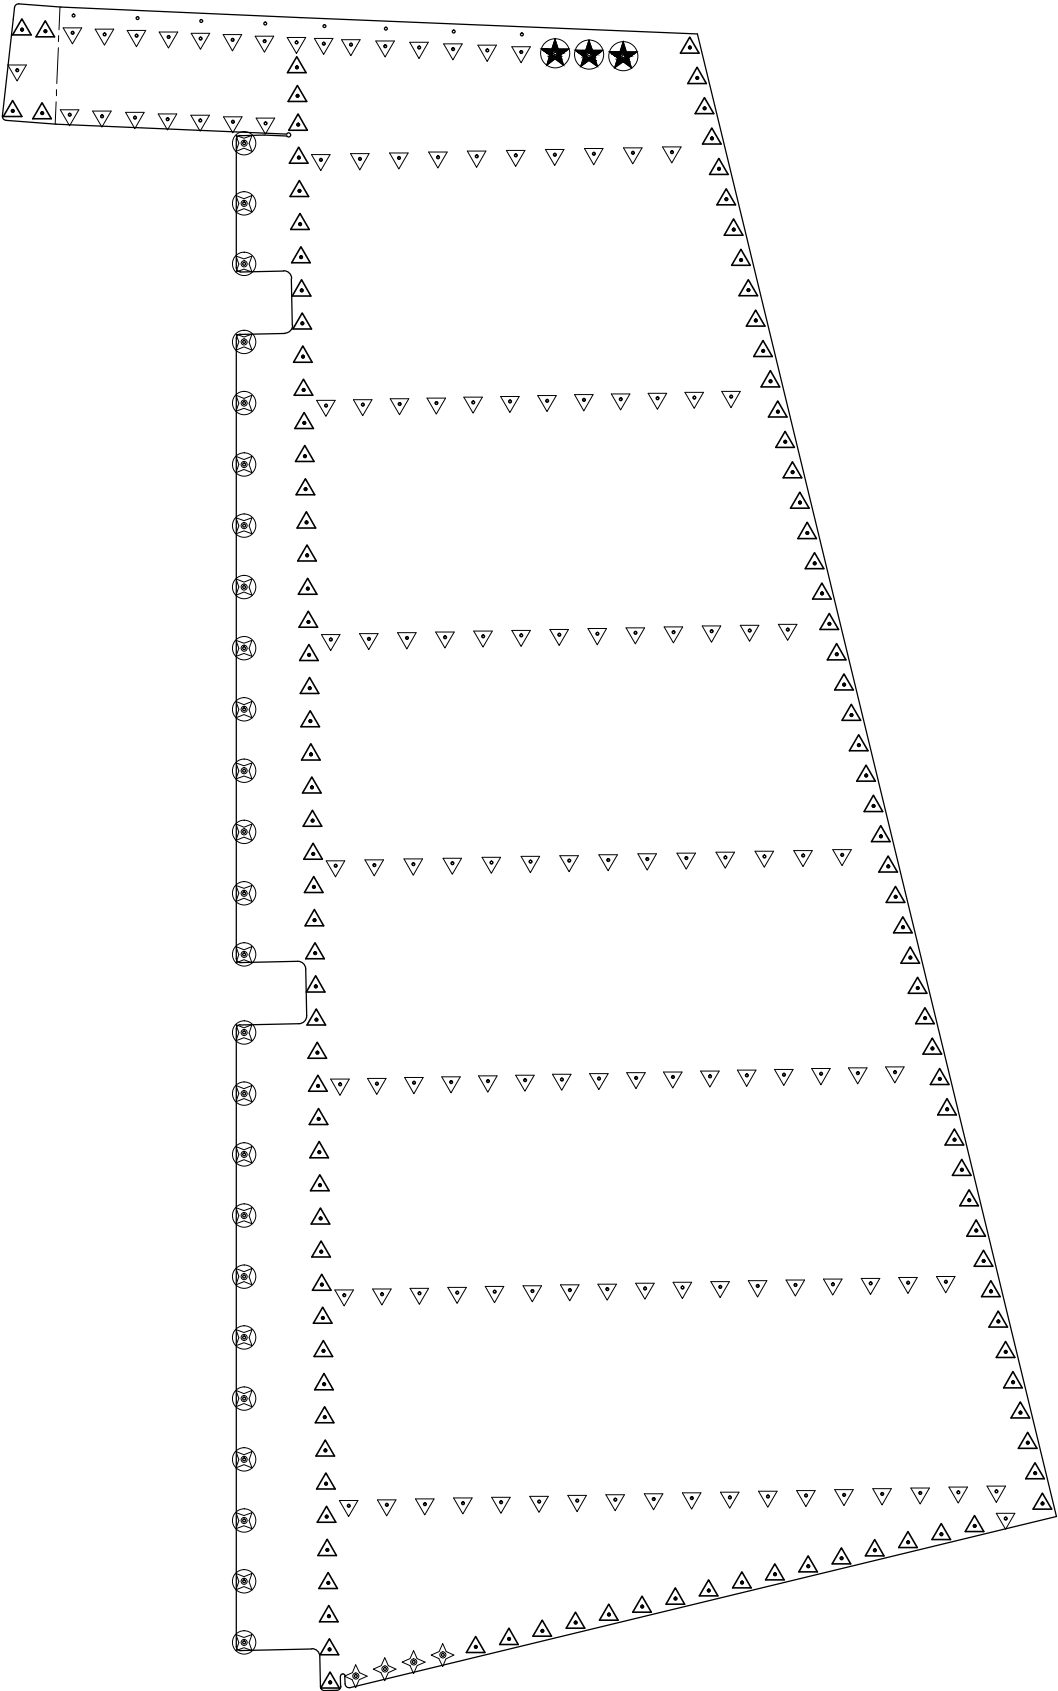

FIGURE 2: RUDDER SKIN RIVETS (SHOWN FLAT)
Step 4: Cleco then rivet the leading edges together with the rivets called out in Figure 2.